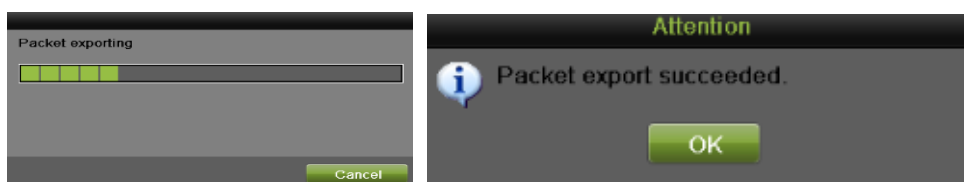

Figure 149 Export Process Bar
4. After the exporting is complete, click OK to finish the packet export, as shown in Figure 149.